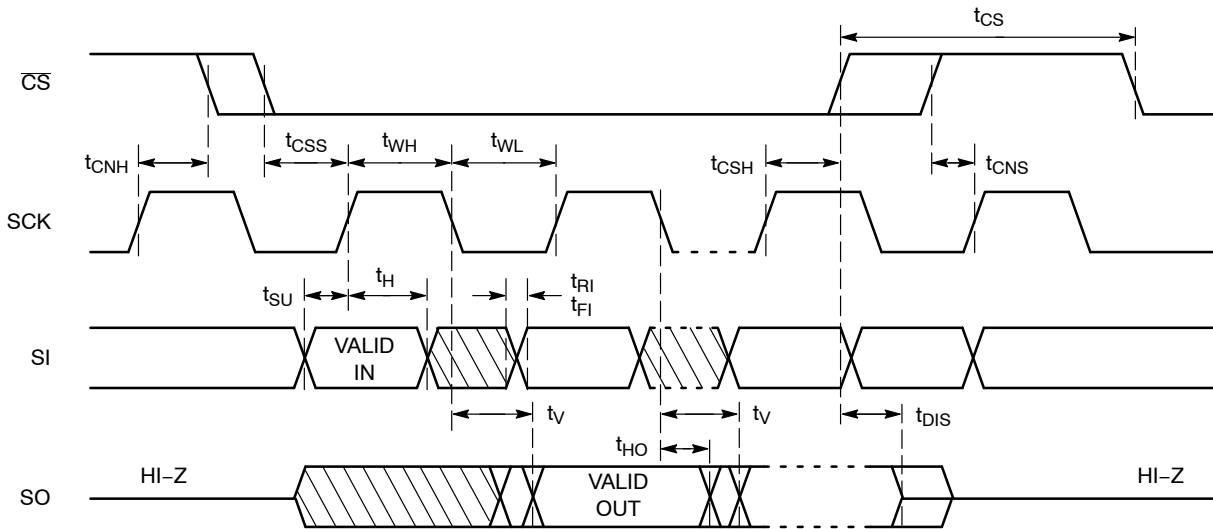

Figure 2. Synchronous Data Timing
8. **All Chip Select (CS) timing parameters are defined relative to the positive clock edge (Figure 2). t_{CSH} timing specification is valid for die revision E and higher. The die revision E is identified by letter "E" or a dedicated marking code on top of the package. For previous product revision (Rev. D) the t_{CSH} is defined relative to the negative clock edge.**
After a high to low transition on the $\overline{\text{CS}}$ input pin, the CAT25640 will accept any one of the six instruction op-codes listed in Table 9 and will ignore all other possible 8-bit combinations. The communication protocol follows the timing from Figure 2.